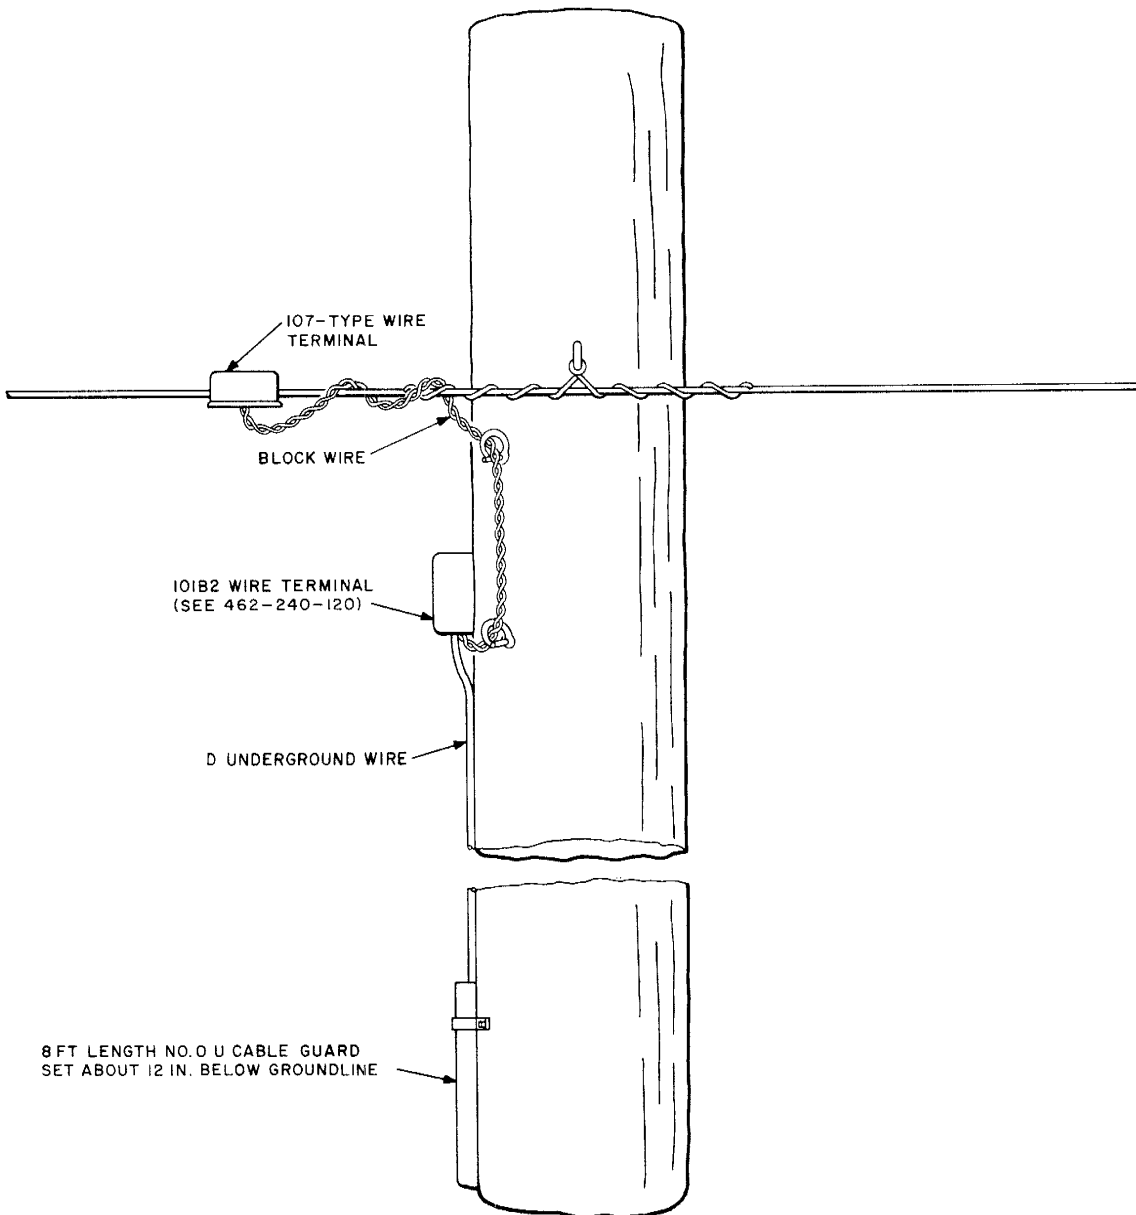

Fig. 7—Termination of Underground Wire and Rural Wire
**4.02** At the junction with C Rural Wire, D Underground Wire can be brought up a pole and terminated in a 101B2 Wire Terminal. At the groundline the D Underground Wire should be covered with an 8-foot length of No. 0 U Cable Guard. The armor wire should be cut off as shown in Fig. 3. Block wire should be used to bridle between the 101B2 Wire Terminal and the 107-type wire terminal on the C Rural Wire. A typical installation is shown in Fig. 7.